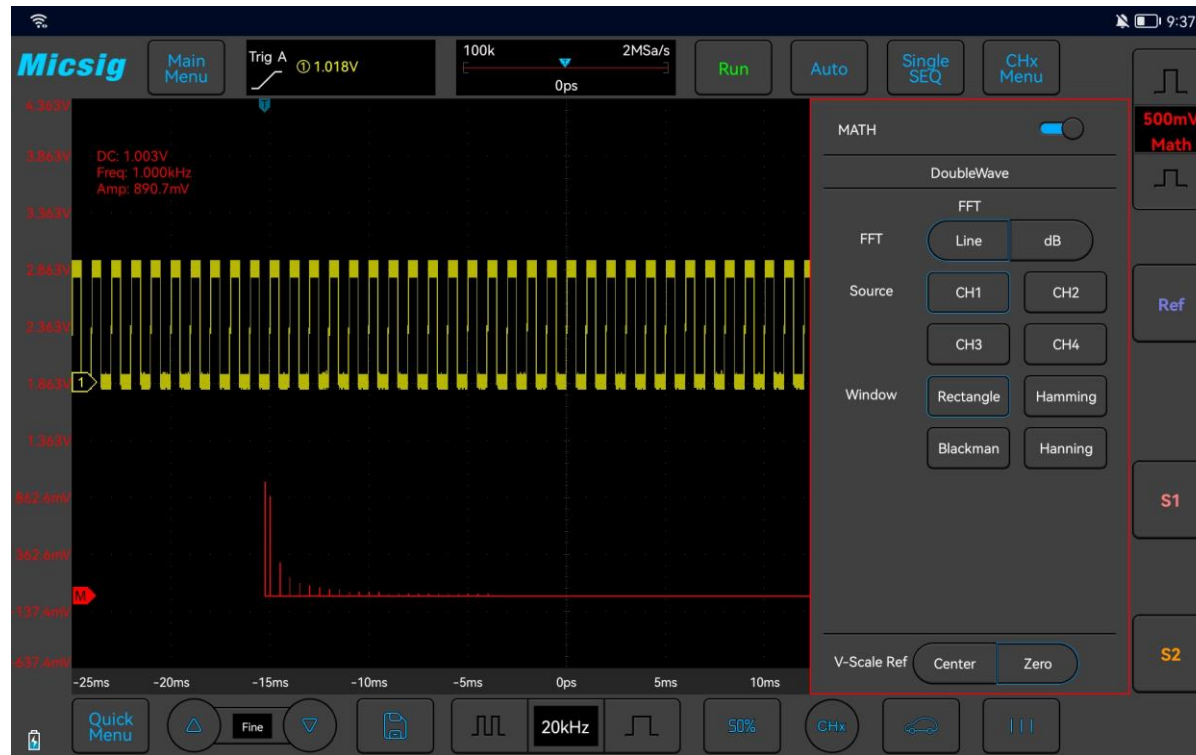

Figure 9-3 FFT Window
- 2) Tap spectrum type “Line/Decibel” to open the FFT window (see Figure 9-3 FFT Window).